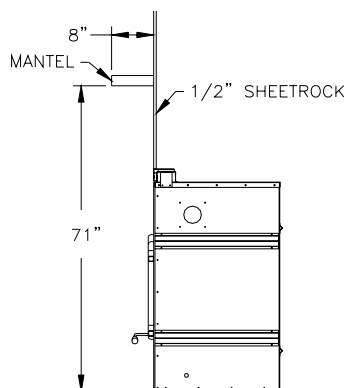

FIGURE 14: COMUSTIBLE FACING
1. Combustible material must be installed flush with the fireplace. It may not project in front of or on the fireplace. This means that the steel front façade of the fireplace must not be overlapped with the combustible facing material. Figure 14 shows the proper installation of combustible material with reference to the fireplace front façade.
The mantel must be installed at least 71 inches above the base of the fireplace. Figure 14 shows the proper location of the mantel with respect to the base of the fireplace.